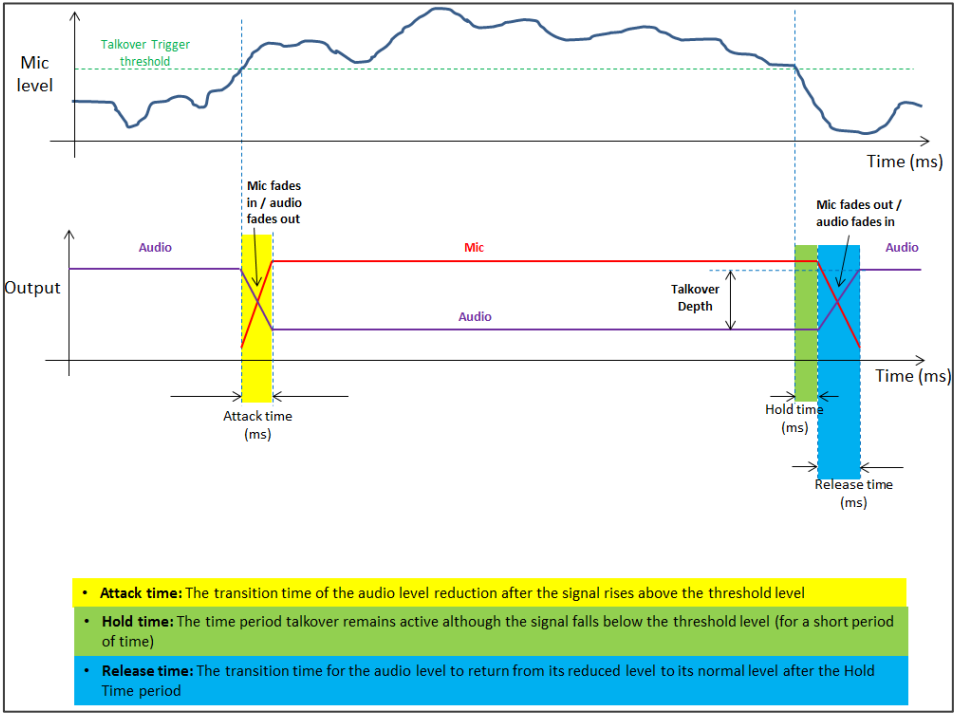

Figure 15: Talkover Mode
-  When Talkover mode is selected, use the slider controls or enter a number in the fields to adjust the microphone settings (see Figure 15).